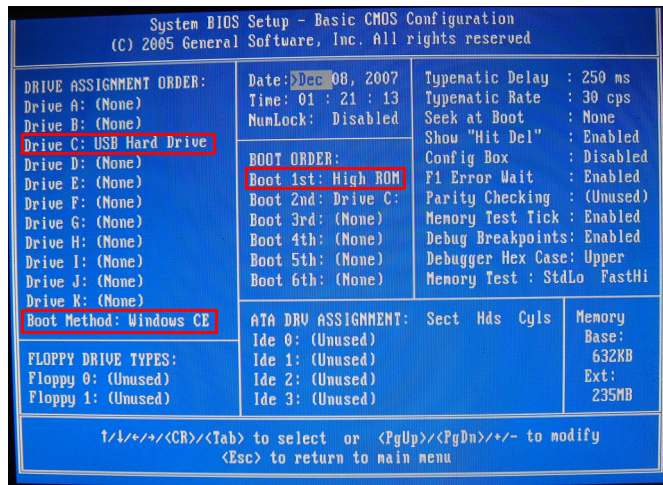

Figure 5-5 Basic CMOS Configuration
- 8 The Basic CMOS Configuration setting is as shown in Figure 5-5.